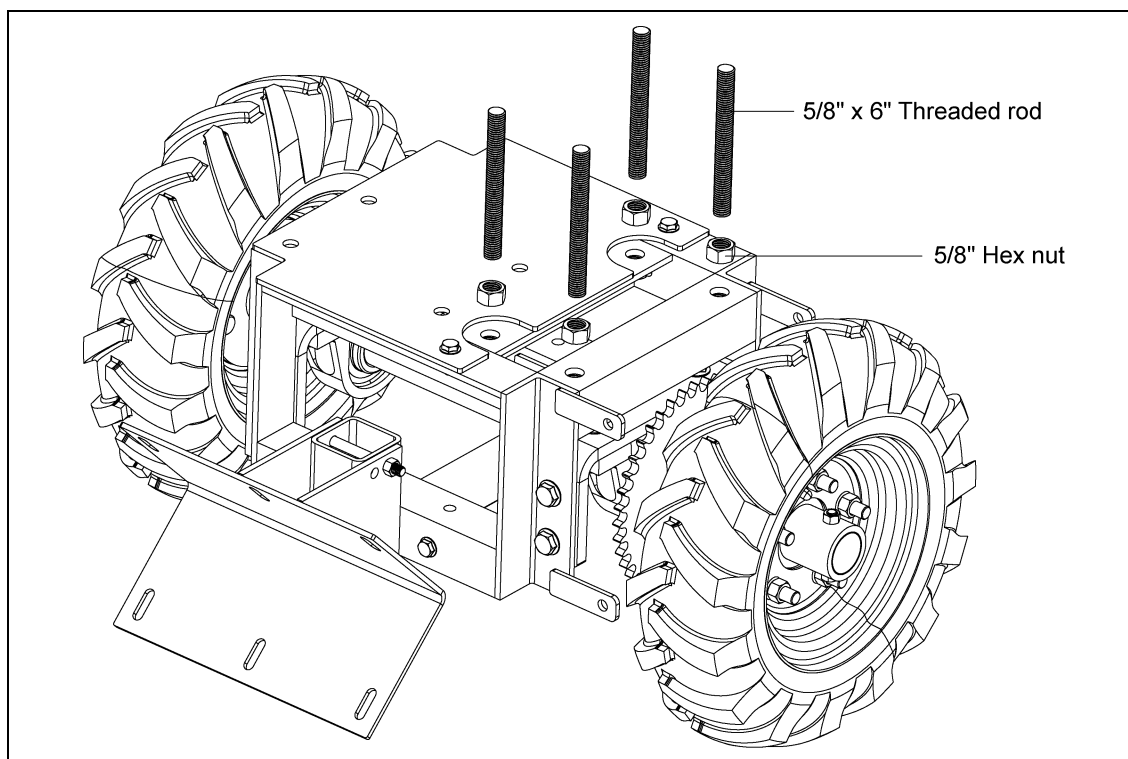

Figure 4E
11. Bolt the four (4) 5/8"-11 x 6" threaded rods to the tractor frame using one 5/8"-11 hex nut for each rod. (See Figure 4E.)